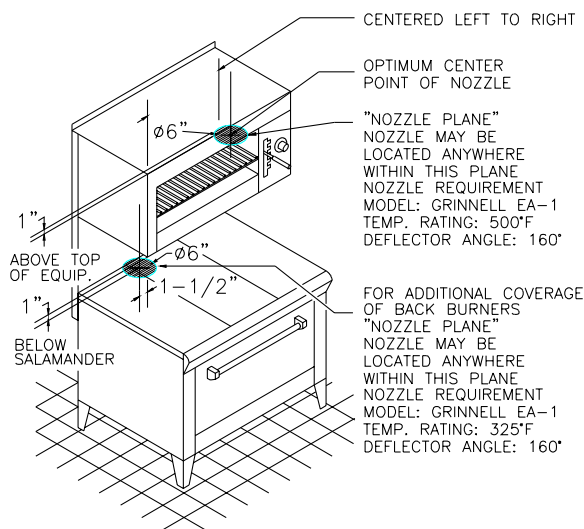

fig. 12
When a Range/Griddle or a Hot Top is combined with an overshelf Salamander Broiler, (2) Mist-A-Fire nozzles are provided. [See figure 12]